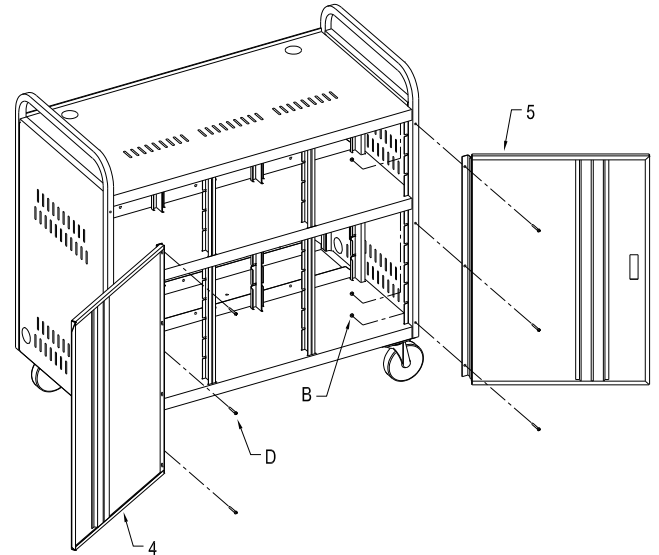

Figure 2
- Position cart upright. See Figure 2. Secure both doors to cart. Use the slots in the doors to adjust the position. Tighten all fasteners.